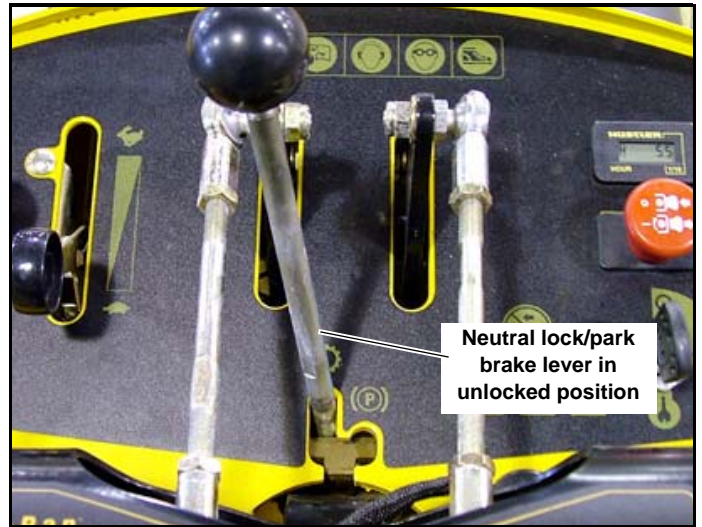

Fig. 3-5
3. With the neutral lock/park brake lever in the unlocked position (Fig. 3-5) and/or the deck clutch switch engaged (up position), slowly release both operator presence control levers. **The engine should stop within a few seconds.**
NOTE: The machine is equipped with operator presence control switches. If for any reason the operator should release both of the operator presence control levers when the neutral lock lever is unlocked (Fig. 3-5) or the deck clutch switch is engaged (up position), the engine will stop.
After starting engine, place the neutral lock lever in the unlocked position (Fig. 3-5) and steer as follows: